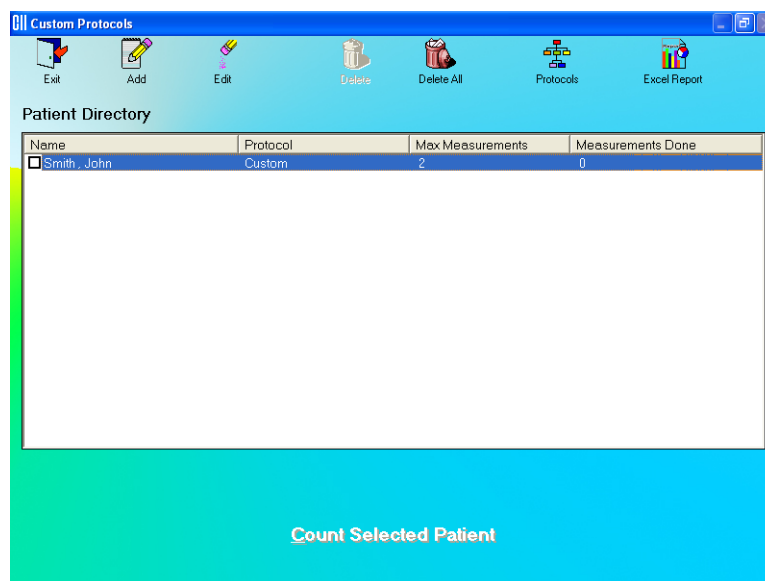
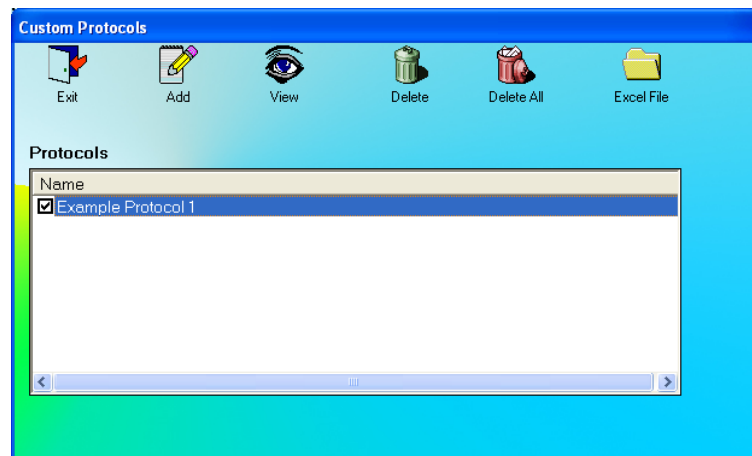

Figure 16-1 Main Custom Protocols Screen
Figure 16-2 Main Protocol Screen
Click the **Custom Protocols** button or press *ALT+C* on the Main screen. Figure 16-1 Main Custom Protocols Screen will appear. The **Patient Directory** list box will be empty if there are no existing patients in the database at that time. Each added patient will appear in this box with its name, Protocol name, maximum number of measurements for the protocol and number of measurements that have been performed.
To Add, View, or Delete Protocols, click the  icon on Figure 16-1 Main Custom Protocols Screen. Figure 16-2 Main Protocol Screen will appear.
1. Click the  icon on Figure 16-2 Main Protocol Screen. The Protocol Setup screen will appear as shown in Figure 16-3.
Click the  icon on Figure 16-2 Main Protocol Screen. You can then step through the screens described in Adding Protocols and view the details of the protocol.
Click the  icon on Figure 16-2 Main Protocol Screen. You will be asked to verify the deletion(s).
Click the  icon on Figure 16-2 Main Protocol Screen to enter or change the name of the workbook to be used to analyze the data for the protocol. If the selected workbook has already been assigned to a protocol, an error message will appear.
1. Click the  icon on Figure 16-1 Main Custom Protocols Screen.
4. Click the **Done** button or press *ALT+D* to go to the Add Patient Screen as shown in Figure 16-8. Click the **Cancel** button or press *ALT+C* to return to Figure 16-1 Main Custom Protocols Screen.